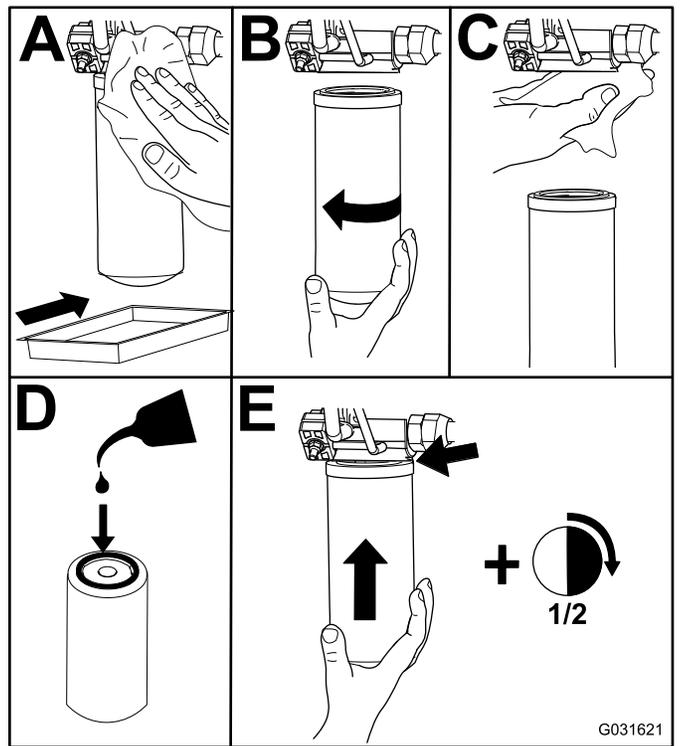

Figure 81
2. Replace the hydraulic filters (Figure 81).